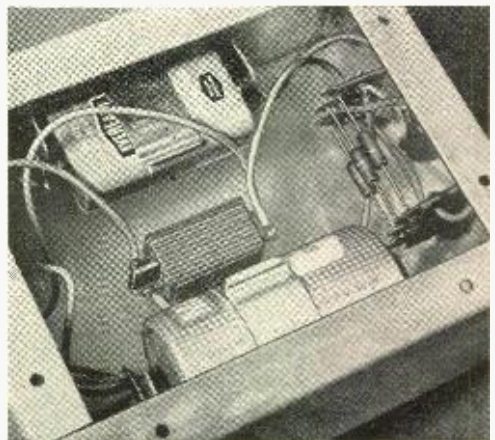

Fig. 5. The bridge circuit—excluding photocell and light source—is assembled with point-to-point wiring.
**Building The Bridge.** The author built his bridge circuit in a 5" x 4" x 2" metal box, as shown in Fig. 5, although any other similar container would suffice. The bridge elements (*R1*, *R2*, and *R3*) are supported on a pair of three-terminal strip assemblies. The two batteries are mounted on the sides of the box, the on-off switch (*S1*) is on the upper surface of the box, and the three-pin polarized